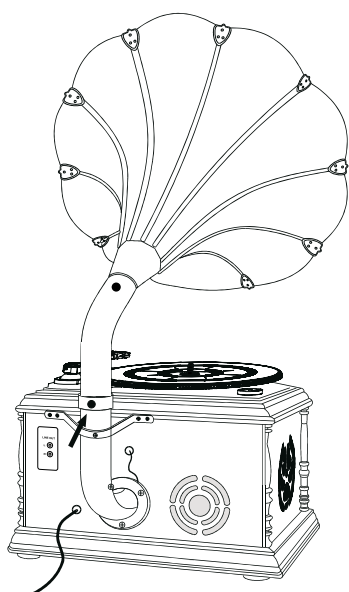

Fig. 9.
8. Look at **Fig9**. Nest the assembled big horn speaker (A) into the tubing of the RTCC411RIP host cabinet in the correct position. Rotate one screw B(F) clockwise into the hole. Tighten clockwise with a Philips head screwdriver. It should be able to be turned freely by rotating the big horn speaker lightly.